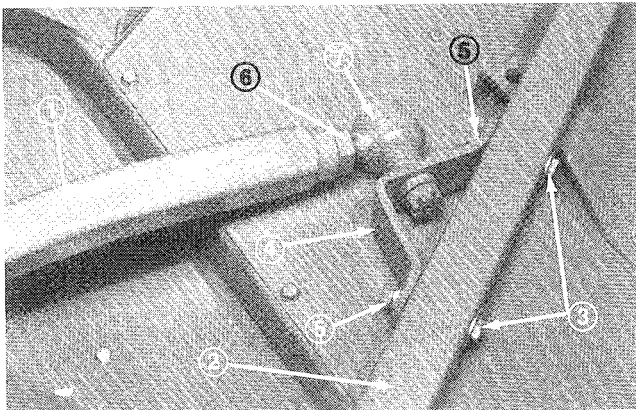

Figure 9
4. Secure ball joint mount to caster arm (Fig. 9) with two capscrews (7/16 - 14 x 3"), flatwasher (15/32 I.D. x 59/64 in. O.D.), and nuts (7/16 — 14). Head of capscrew and the large flatwasher must be on outside of caster arm.
5. Tighten large jam nut against front of right push arm (Fig. 9). When tightening jam nut, hold ball joint straight to permit proper oscillation during raising and lowering of the cutting unit.